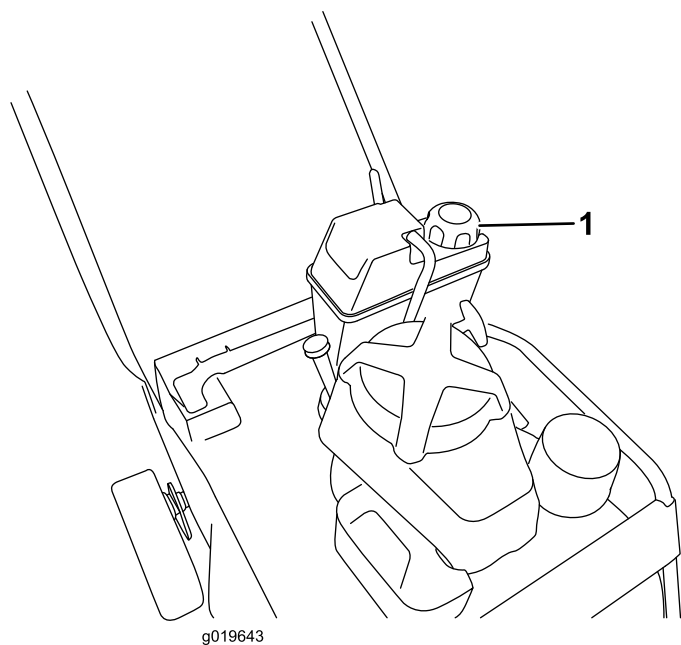

Figure 11
1. Clean around the fuel-tank cap (Figure 11).